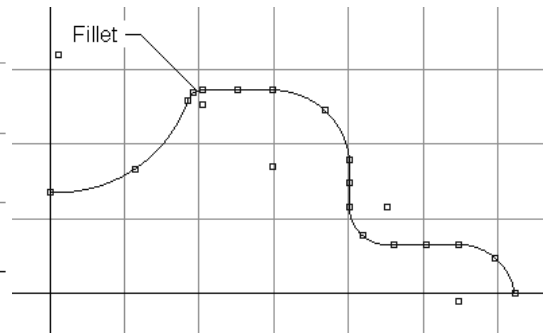

Figure 7-52 Fillet curve created
9. Select three point arc from view window; the fillet curve is created between linearc and three point arc, as shown in Figure 7-52.